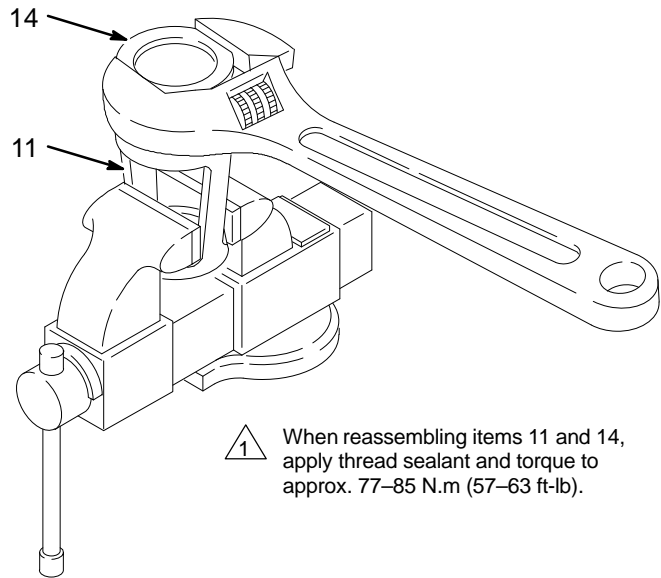
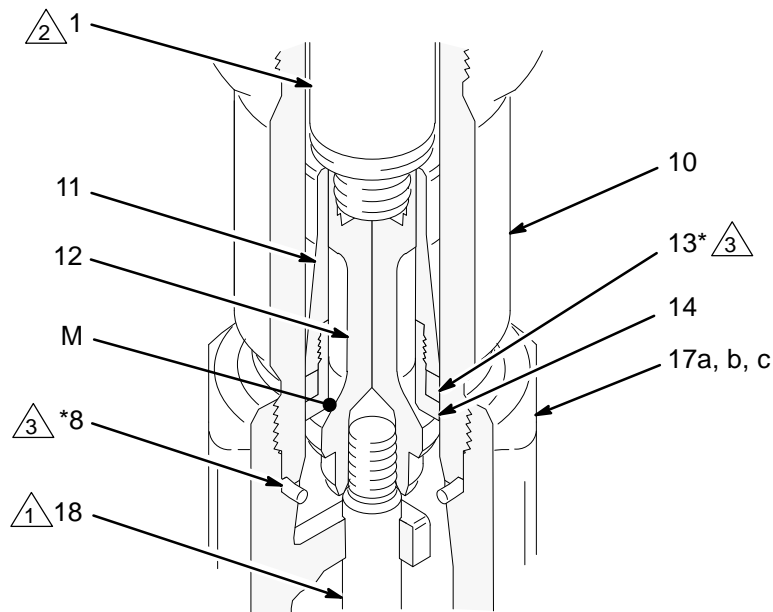

Fig. 11
Fig. 12
9. Remove the seal (8) from the bottom of the cylinder (10). See Fig. 12. Shine a light into the cylinder to examine the inside surface for scoring or damage. **Only if the cylinder is damaged, or there is evidence of leaking around the top cylinder seal (8),** unscrew the cylinder from the outlet housing, using a pipe wrench. Remove the top cylinder seal.
10. Place the flats of the displacement rod (1) in a vise. Unscrew the piston (12) from the displacement rod; the priming piston rod (18) will come with it. Slide the piston guide (11) and seat (14) off the piston (12).
11. It is not necessary to remove the priming piston rod (18) from the piston (12) unless your inspection reveals damage to either part. To disassemble, place the piston flats in a vise and unscrew the rod.
12. Place the piston guide (11) in a vise, as shown in Fig. 11. Using an adjustable wrench, unscrew the piston seat (14) from the guide. Remove the seal (13); always replace it with a new one. Inspect the mating surfaces (M) of the piston (12) and piston seat (14) for damage or wear. See Fig. 12.
2. With the beveled side facing up, press the intake valve seal (39*) into the recess of the intake valve packing nut (15) until it snaps into place. The nose of the seal should be flush with or slightly recessed into the face of the packing nut.
3. Place the flats of the valve body (16) in a vise. Screw the packing nut into the valve body hand-tight. Set the intake housing assembly aside.
4. Lubricate the piston seal (13*) and install it on the piston seat (14). Apply thread sealant to the threads of the seat and the piston guide (11). Screw the guide onto the seat (14). Place the guide in a vise as shown in Fig. 11 and torque the seat to 77–85 N.m (57–63 ft-lb).
5. If it was necessary to remove the priming piston rod (18) from the piston (12), place the flats of the piston in a vise. Using an adjustable wrench on the flats of the rod, screw the rod into the piston. Torque to 125–139 N.m (92–102 ft-lb). Be careful not to create burrs on the flats of the rod.
6. Place the piston seat/guide assembly onto the piston (12) so the 45° beveled seating surfaces match. Screw the displacement rod (1) into the piston (12) hand tight, then torque the rod to 324–368 N.m (239–271 ft-lb).
- 3 Optional Displacement Pump 237945 uses all PTFE v-packings (item 24).
-  1 Piston check valve (see Fig. 12).